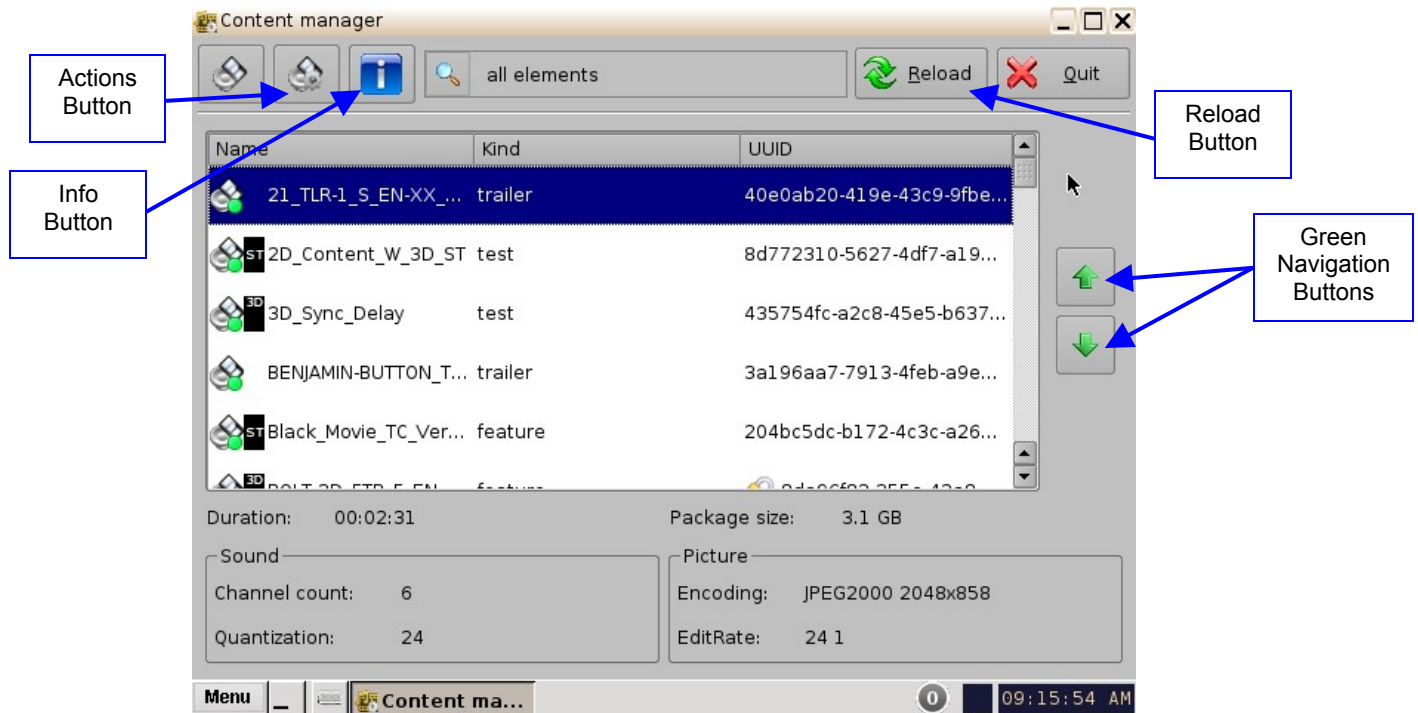

Figure 56: Content Manager Composition Playlists Tab
- The green arrows to the right of the window allow the user to navigate up and down when searching for a CPL (Figure 56).
- The Reload button allows the user to refresh the list of CPLs (Figure 56).
- Select a CPL and click on the Actions button to get more options (Figure 56).